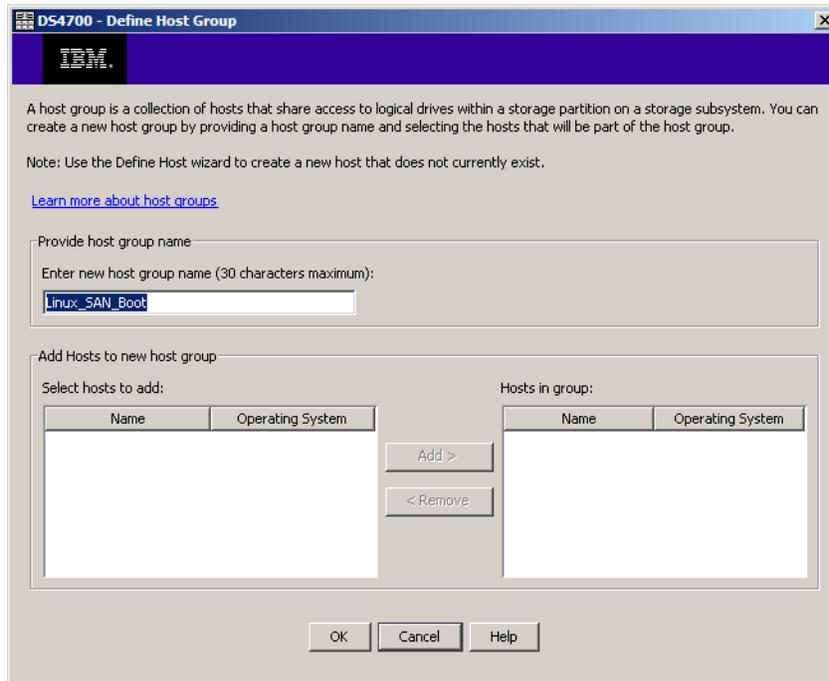

Figure 10-53 Define Host Group Name
7. Enter the group name and click **OK**, as shown in Figure 10-53.